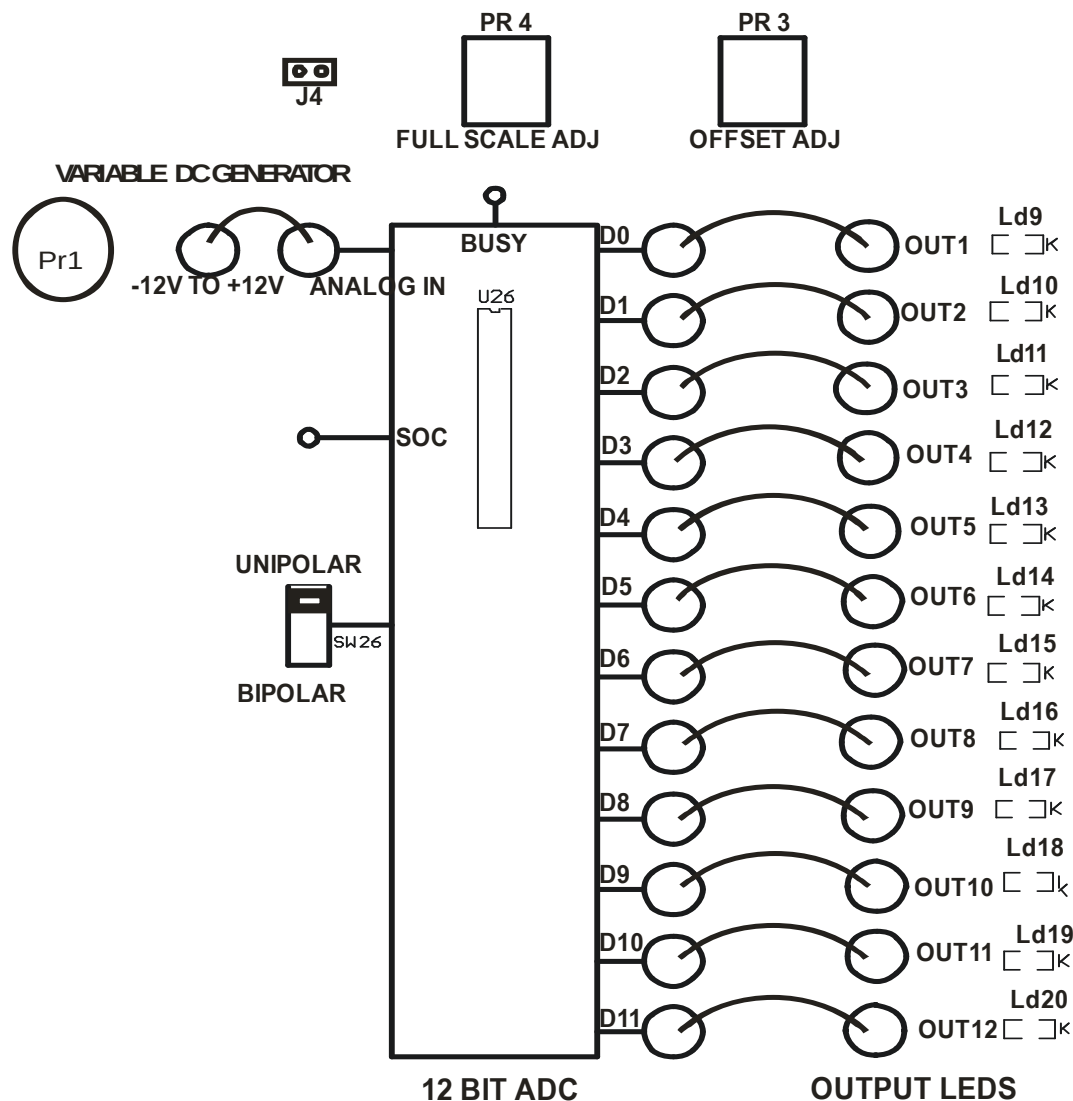

FIGURE-5.1
1. Make the connection as shown in FIGURE-5.1